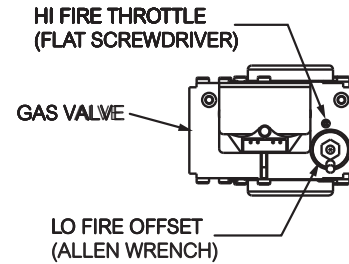

Fig. 53: Setting Hi Fire Throttle / LO Fire Offset
Valve adjustment throttle locations are indicated on Figure 53.
6. Adjust Hi Fire Throttle (see Fig. 53)) to get within the combustion range required.
3. Using an Allen wrench turn the Offset slightly clockwise to increase CO₂ values (see Fig. 53).